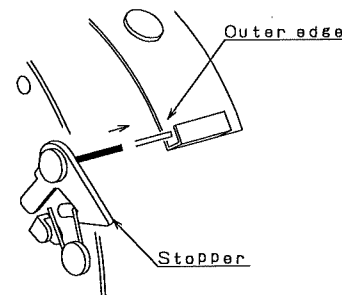

Fig.7
- When installing Plate assembly on Drum , place Stopper in the outer edge of Spring. (See Fig.7)Check Stopper can move smoothly after installing Plate assembly.